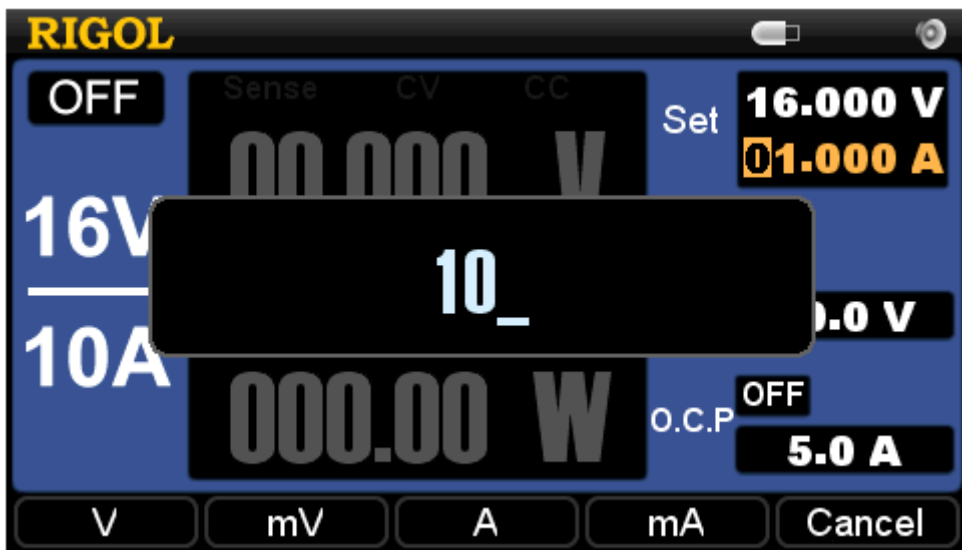

Figure 2-6 Current setting
5. Current setting: press **Curr** and set the current to 10 A, see Figure 2-6.